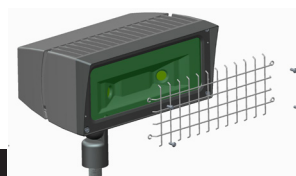
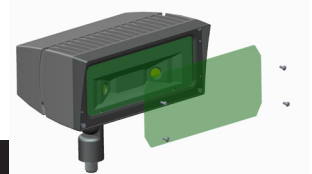

Fig. 1
Fig. 2
Universal voltage driver permits operation at 120V thru 277V, 50 or 60 Hz., except fixtures factory ordered with a 120V swivel photocell (/PCS), 277V swivel photocell (/PCS2). For 0-10V dimming, **Fig. 1**.
Wire Guard and Poly Shield mount with (4) #8-32 **Stainless Steel Screws**. Screws are provided with accessory. See **Figure 2** for Guard. See **Figure 3** for Shield.
Wire Guard and Poly Shield mount with (4) #8-32 **Stainless Steel Screws**. Screws are provided with accessory. Guard and Shield may be used together. See **Figure 1** for Guard. See **Figure 2** for Shield.